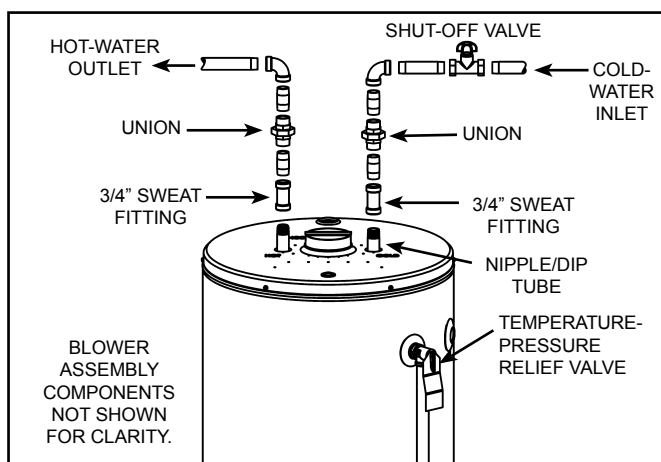

Figure 6
3. Apply Teflon® tape or pipe sealant on the top threads and reconnect the water piping (see Figure 6).